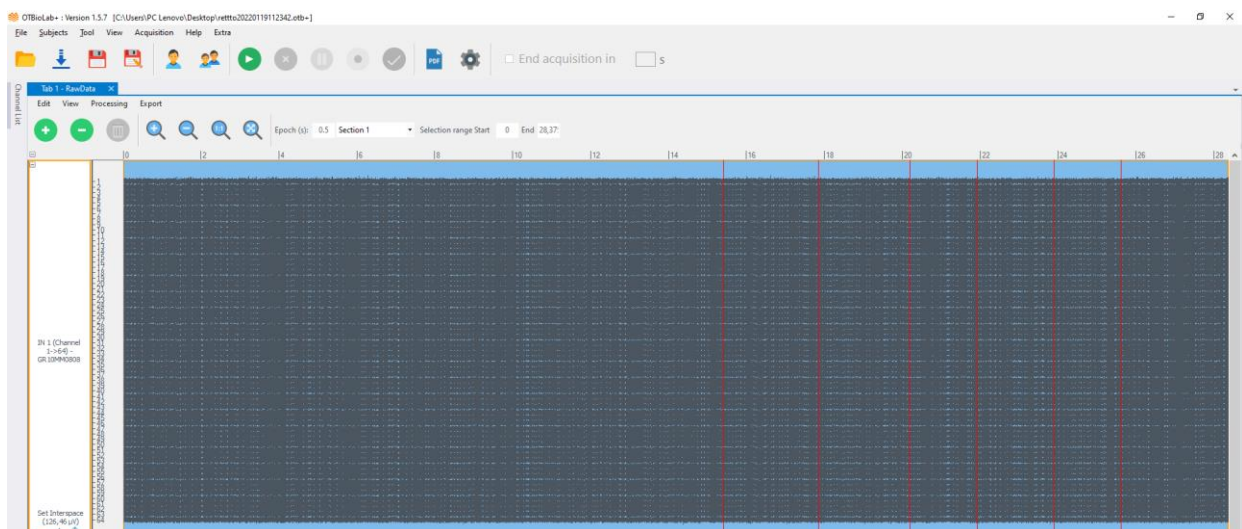

Fig. 8.26: Markers assigned during the acquisition.
- Show Markers: allows you to review the instants of time and comments entered during the acquisition and, if necessary, modify them (add, delete, export, import). See figure 8.26 and 8.27, in which the window of the markers assigned during the acquisition is shown and from which it is possible to modify them. If no marker has been inserted during the acquisition the window will be empty. In case of need, marker can however be inserted offline manually.